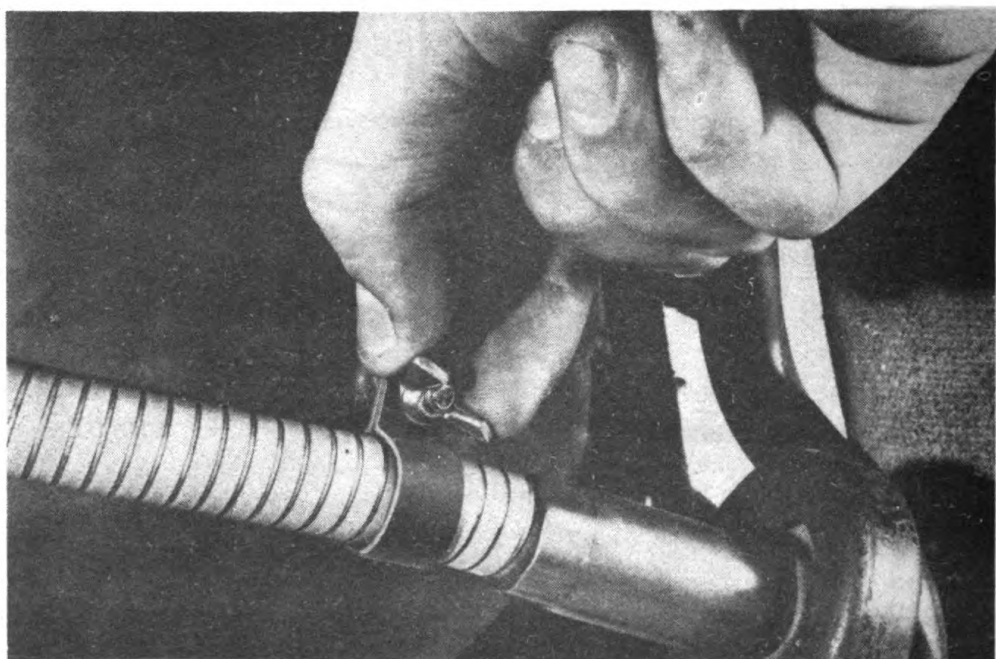
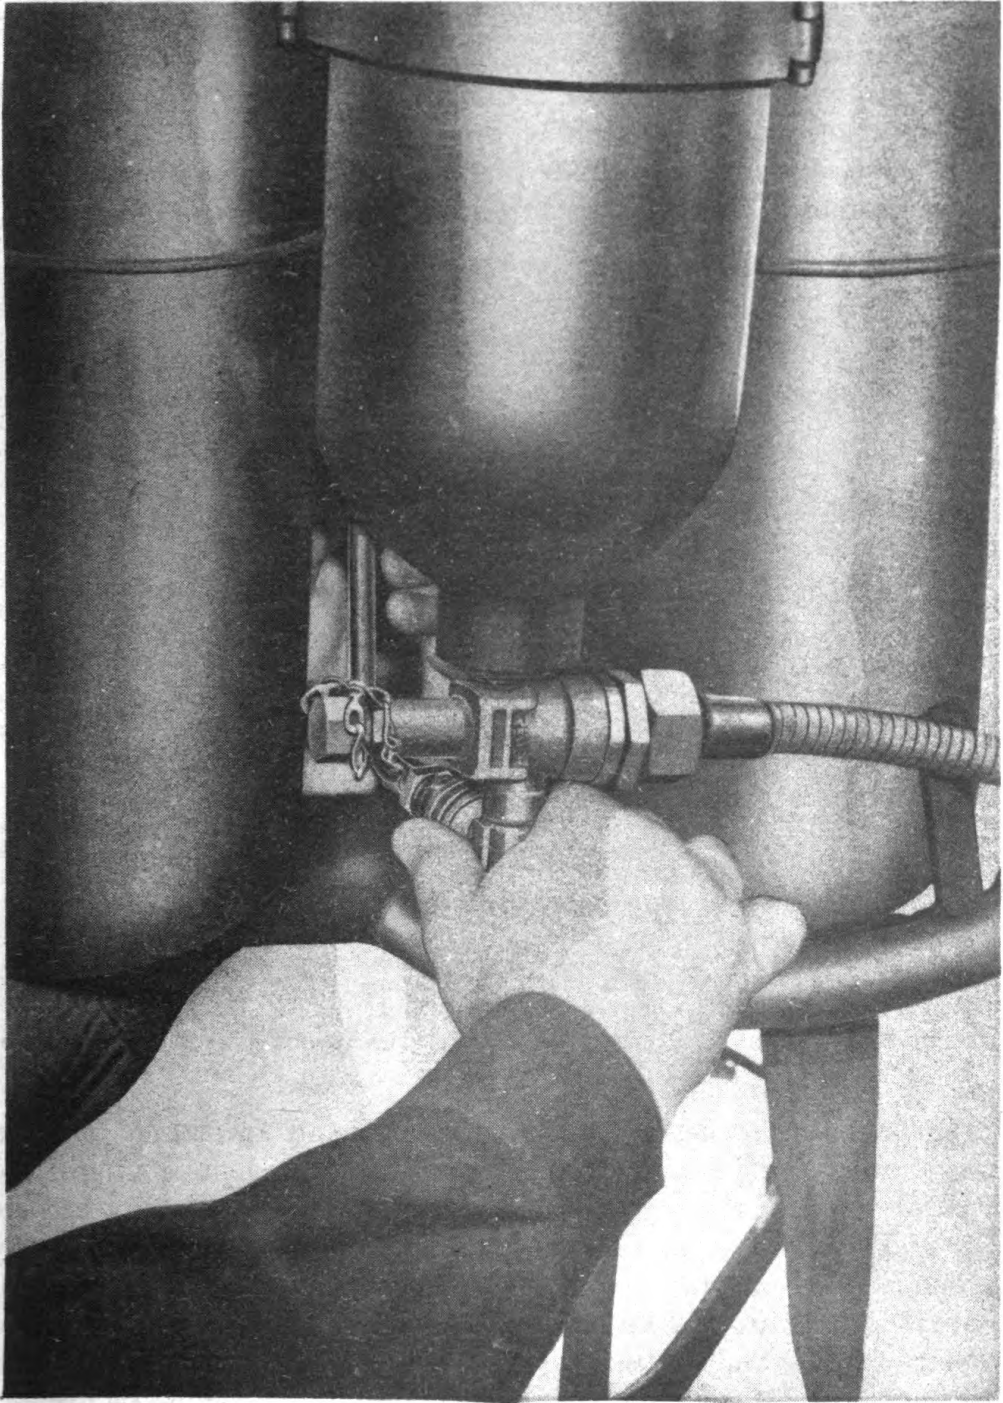

FIGURE 35.4. (Added.) Removing wing nut to free valve flexible shaft.
FIGURE 35.5. (Added.) Pushing knurled socket away from pressure tank, permitting pressure tank and valve assembly to be removed from tank group.
- 12 Nuts, wing, A81-1-877. (See fig. 35.4.)
(1) Close pressure-tank valve. Press valve lever and safety grip on gun to release all pressure from fuel system and gun.
(2) Unscrew wing nut from valve flexible shaft. (See fig. 35.4.) Be careful not to misplace wing nut.
(3) Pull clamp and shaft from stud which is welded on fuel tank.
(4) With one hand under pressure tank, unclamp but do not fully open pressure-tank clamp.
(5) Supporting pressure tank valve with top of right hand, push knurled socket in and away from pressure tank valve. Left hand may be placed at back of regulator tube so that tube does not bend away from socket. (See fig. 35.5.) Pull out pressure tank and valve assembly.